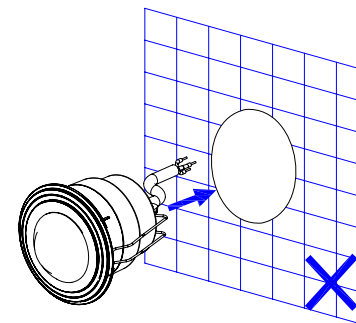

FIGURE 1
- The unit should not be installed on the wall. (FIGURE 1)